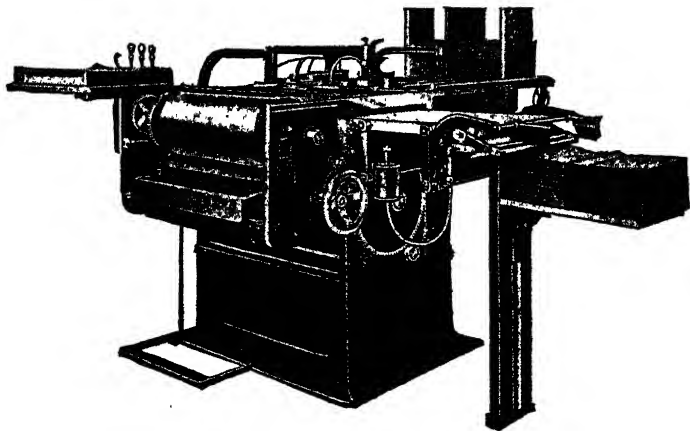

FIG. 37. NO. 2 "SMYTH" CASE-MAKING MACHINE.
*Case-making Machines.* The "Smyth" Case-making Machine (Fig. 37) makes cases from cover paper, bookbinder's cloth, imitation leathers, and from genuine leather if it is of even thickness. It also works with plain or bevelled boards. The covers are cut to size and the four corners are cut off. The boards are placed in hoppers at the rear of the machine, and paper of suitable width for the hollows is also placed in position. The operator feeds the covers one by one to grippers on a cylinder; and the other operations are then automatic. The cylinder revolves and brings the reverse side of the cover material into contact with a roller which revolves in a tank of glue. The cover is then carried to a platform with the glued side uppermost. Suction lifters then pick up two boards and lay them in position upon the cover. The hollow is cut to correct length and laid in position between the boards. The platform descends and folding bars turn in the material at the head and tail, and